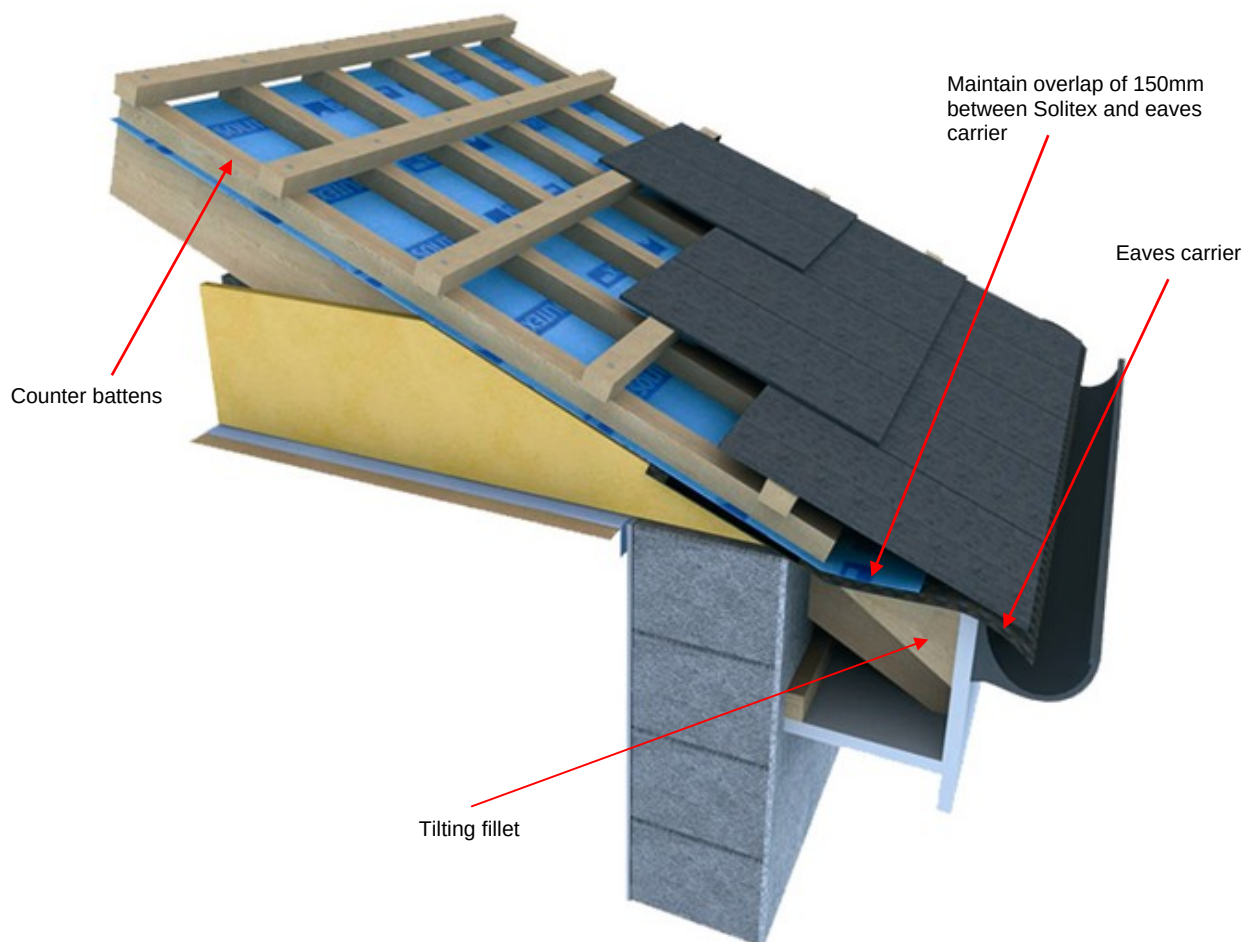

Figure 4: Non ventilated cold roof detail
dressed 50mm into the gutter and be provided with a tilting fillet. Where the UV resistant eaves protection sheet is dressed into the gutter, it should allow effective rainwater and water vapour drainage into the gutter but not affect the flow of rainwater in the gutter (ref. Fig 4).
- In a non-ventilated cold roof, the insulation is laid horizontally on the pro clima INTELLO PLUS vapour check or equivalent at ceiling level and must be pushed into the eaves and against the underlay to ensure that there are no gaps present, as shown in Fig 4. It is important to ensure that a barrier to vapour movement is maintained on the warm side of the insulation over the whole ceiling, particularly at the junction from the ceiling to the external wall.